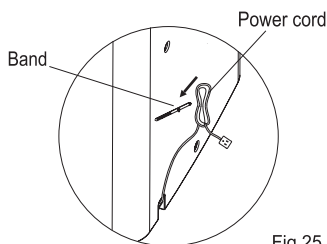

Fig.25
- Stop the appliance and unplug it, wrap the cord and bundle it with the tape (Fig.25). Remove the batteries from the remote controller.